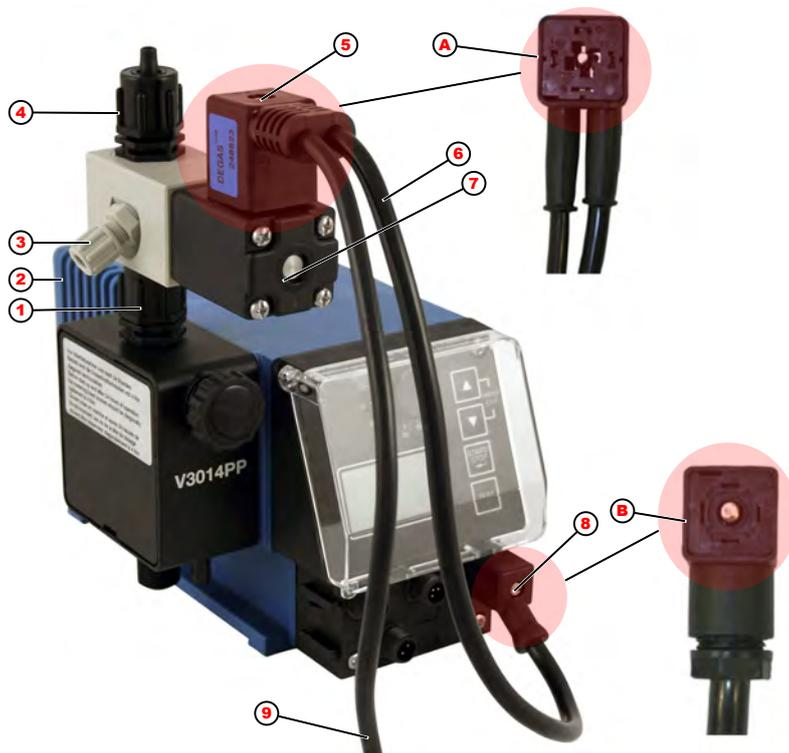

Fig. 3: Installation
- 6 Electrical contacts for degassing valve connection plug (see also Chapter 5 'Installation' on page 27, Fig. 3 Item 5).
The degassing valve is installed on the EMP pump delivery valve (see Fig. 3, Item 1). The metering line is connected to the degassing valve delivery valve (see Fig. 3, Item 4).
The degassing valve connection plug with its flat seal (see Fig. 3, Item 5) must be placed on the solenoid valve (see Fig. 3, Item 7) and secured with screws. The plug coding means that it can only be installed in a single position.
The pump connection plug with its flat seal (see Fig. 3, Item 8) must be fitted on the pump and also secured with screws. This plug is also coded.
Connect the mains plug on the Degas^{PLUS} connection cable (see Fig. 3, Item 9) to the power supply.